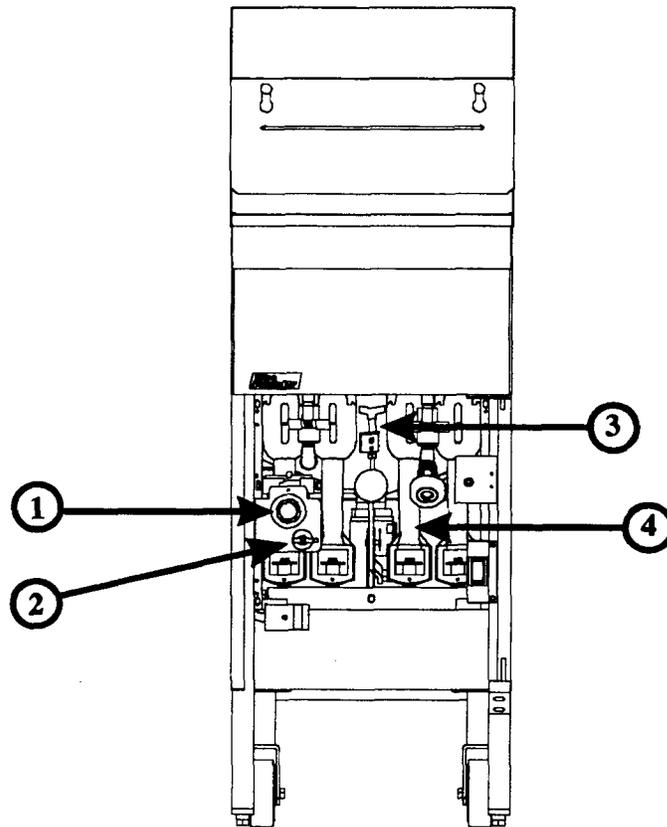

Figure 1-1 Inside View of Fryer
1.5.2.1 Lighting Instructions for Manual Pilot Lights - To light the pilot light refer to these instructions and Figure 1-1. The numbers in parenthesis refer to Figure 1-1 callouts.